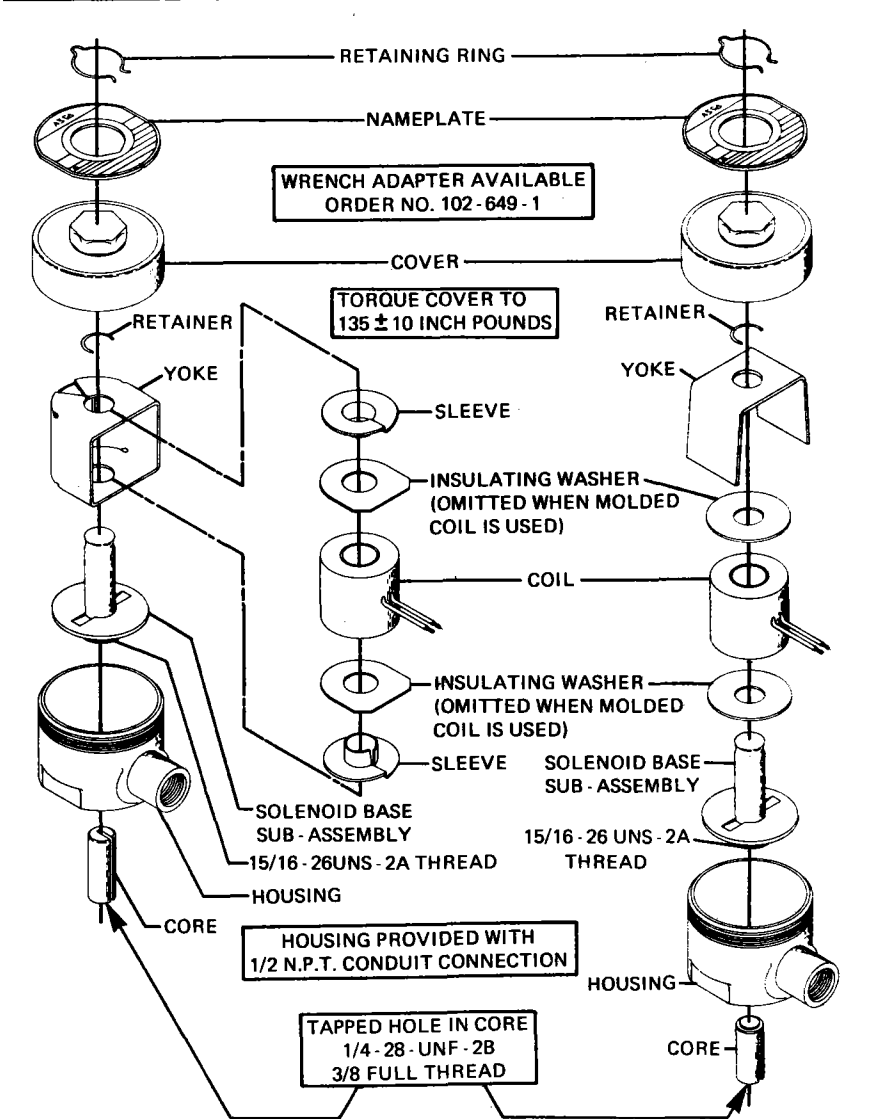

Figure 2.
Catalog Numbers 80173 and 80174 Explosion-proof/Watertight Solenoid Enclosure (Refer to Figure 2)
3. Coil is now accessible for replacement. Reassemble in reverse order of disassembly paying careful attention to exploded views provided in Figure 2.